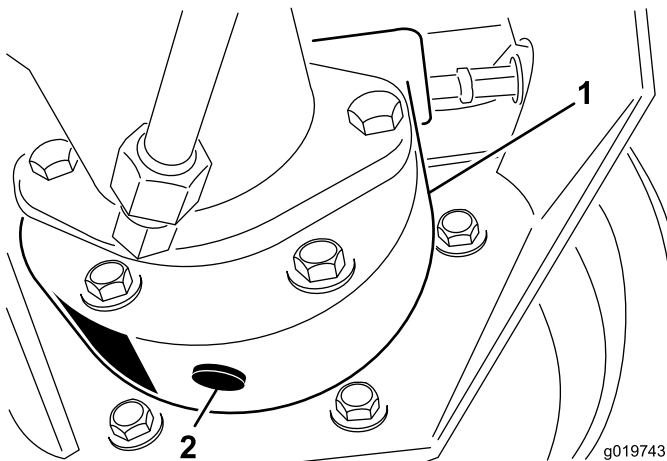

Figure 46
- Place a drain pan under the brake housing, remove the drain plug, and allow the oil to drain (Figure 46).